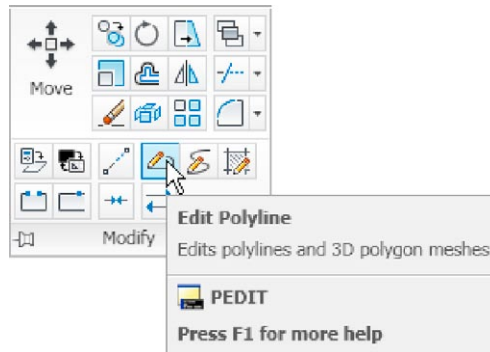

Fig. 3.41 Calling **Edit Polyline** from the **Home/Modify** panel
2. Call the **Edit Polyline** tool either from the **Home/Modify** panel (Fig. 3.41) or from the **Modify** drop-down menu, or by *entering pe* or **pedit** at the command line, which then shows: